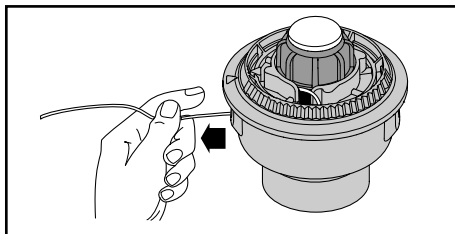

Fig. 20
4. Pull the line away from the spool until the line is tight against the inner reel (Fig. 20).